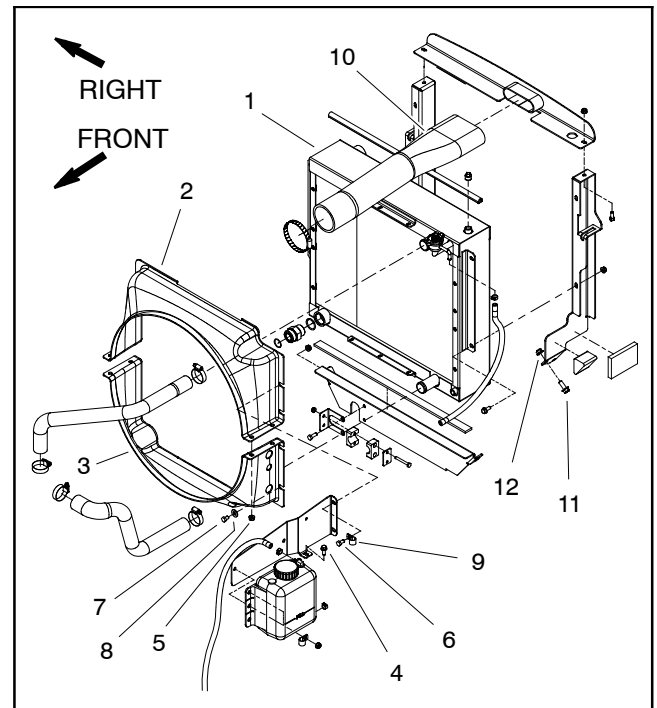

Figure 85
4. Thoroughly clean three (3) hydraulic tubes at lower radiator shroud. Disconnect hydraulic tubes and put caps or plugs on tubes to prevent contamination. Label disconnected hydraulic tubes for proper installation.
5. Remove air cleaner inlet hose and radiator shrouds (upper and lower) to allow easier access to hydraulic fan motor (Fig. 85).
6. Remove flange head screws and flange nuts that secure radiator supports to frame (items 11 and 12 in Fig. 85). This will allow radiator assembly to be moved slightly to ease removal of cooling fan motor and bracket assembly.
7. Remove four (4) cap screws (item 11) and washers used to secure fan to fan hub. Remove fan.
5. Carefully position fan motor and bracket assembly to radiator and secure with six (6) cap screws and flange nuts.
6. Secure radiator assembly to frame with removed fasteners (Fig. 85).
7. Connect three (3) hydraulic tubes to cooling fan motor (see Hydraulic Hose and Tube Installation in the General Information section of this chapter).
8. Position fan to fan hub and secure with four (4) cap screws and washers. Torque screws from **12 to 14 ft-lb (17 to 18 N-m)**.
9. Install radiator shrouds (lower and upper) and air cleaner hose (Fig. 85). Make sure that clearance between shrouds and cooling fan is at least **0.180" (4.6 mm)** at all points.
10. Connect three (3) hydraulic tubes at lower radiator shroud (see Hydraulic Hose and Tube Installation in the General Information section of this chapter).